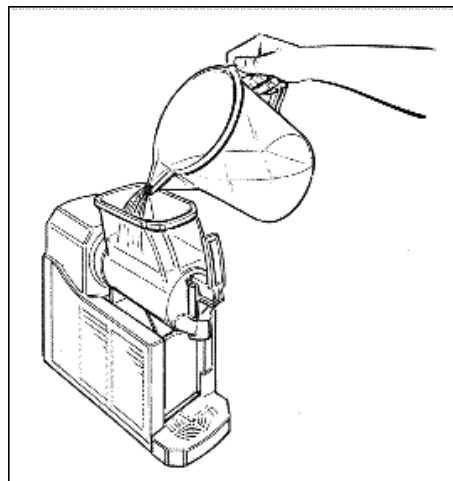

Fig. 52
- Pour the mix obtained into the bowl (see Fig. 52).